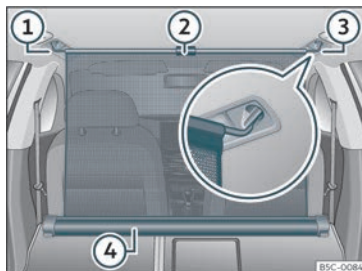

Fig. 134 In the luggage compartment: net partition hooked in place with the rear seat backs folded down.
- Pull up handle»» **Fig. 134** ② to remove the net from the casing»» **Fig. 134** ④.
- Hook in the net partition on the right or left side»» **Fig. 134** ③ (magnified image).
- Hook in the net partition into the housing on the other side»» **Fig. 134** ① by pulling the rod.
The net partition is properly assembled when the T-shaped ends are firmly secured in the corresponding housings»» **Fig. 134** ③ and ①.
- Roll up the net into the casing»» **Fig. 134** ④ lowering it with your hand.